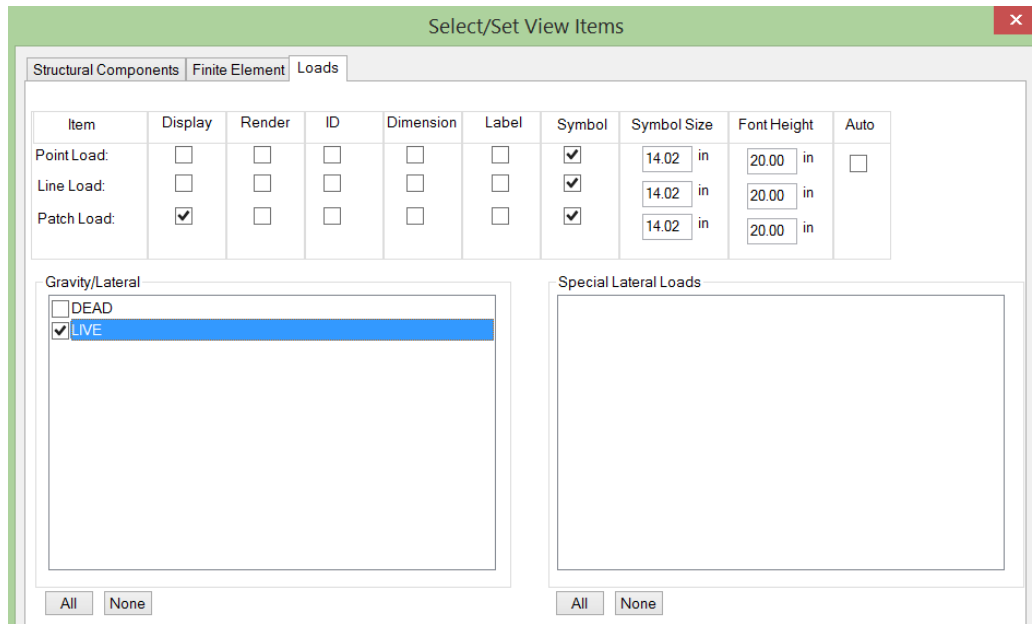

Figure 18 Select/Set View Items - Loads
- To review the applied gravity loads, go to *Visibility* → *View Settings* . Select the *Loads* tab to choose which loads are to be viewed (Error! Reference source not found. **FIGURE 18**).